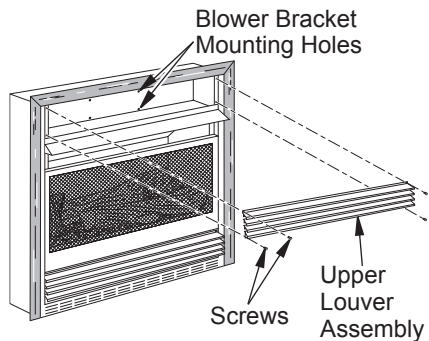
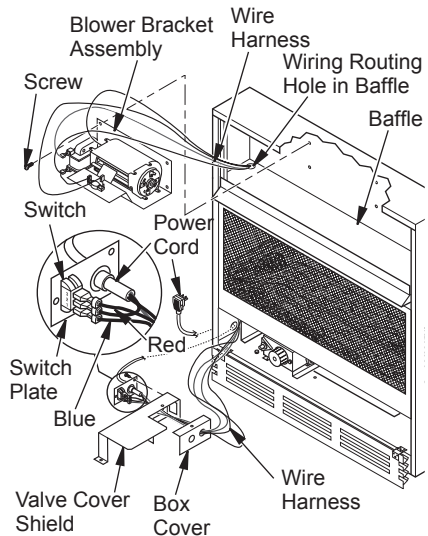
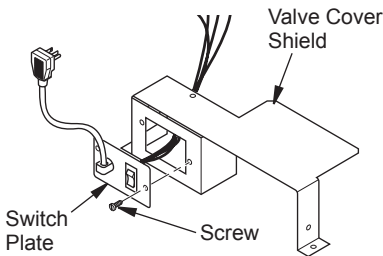

Figure 16 - Removing Upper Louver Assembly
Figure 18 - Installing Blower Bracket Assembly
Figure 19 - Installing Switch Plate to Valve Cover Shield
- Remove 4 screws from louver assembly (see Figure 16). Save these screws.
3. Note the wire locations on back of AUTO/OFF/ON switch. The terminals on back of switch are numbered 1, 2 and 3. Carefully remove red wire from terminal 1 and blue wire from terminal 3. Black wire can remain on middle terminal 2 (see Figure 18).
5. In top of the heater cabinet, locate the four mounting holes on the outer casing. Align these four holes with those on the blower bracket assembly. Attach blower bracket assembly to the outer casing with 4 #10 screws provided (see Figure 18).
6. Route the wire harness through the hole in left side of baffle. Pull wire harness through lower opening above where the valve shield was removed. (see Figure 18).
7. Insert the 4 wire harness into one of the round holes in the rear of the valve cover shield and through the rectangular hole in the front of shield (see Figure 18).
- Install the switch plate on the valve cover shield with 2 #10 screws provided (see Figure 19). Reinstall the valve cover shield. Route power cord out of the cabinet by inserting it through the bushing on the outer casing (see Figure 18, page 14). Plug fan kit into 120-Volt grounded power supply and test operation. **Note:** When switch is in the AUTO position, the fan will start after the heater has run for a few moments. The fan will continue to run for several moments after the heater has been turned off. When switch is in the ON position, the fan will run until turned to OFF. Reinstall upper louver assembly and hood if previously removed, (see Figure 16, page 13). Close lower louver door.
- Reinstall upper louver assembly and hood if previously removed, (see Figure 16, page 13). Close lower louver door.